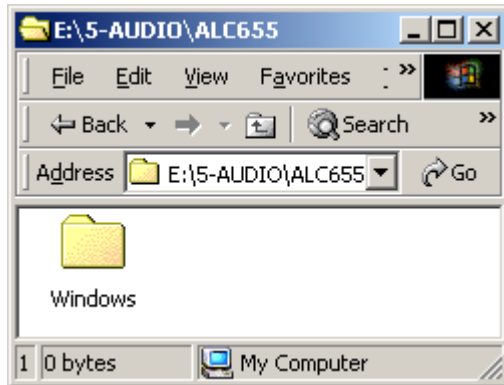

Figure 7-39: Open the Windows Folder
Step 4: A new window opens (Figure 7-39).